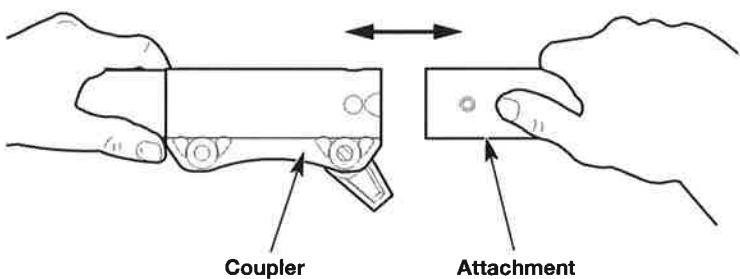
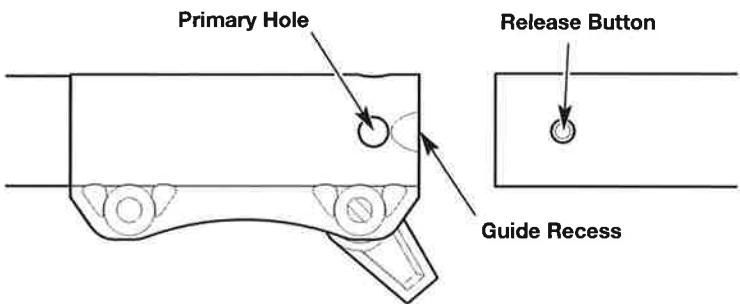

Fig. 9
Fig. 10
4. Align the release button with the guide recess (Fig. 10).
5. Push the attachment straight into the coupler (Fig. 9) until the release button snaps firmly into the primary hole (Fig. 10).